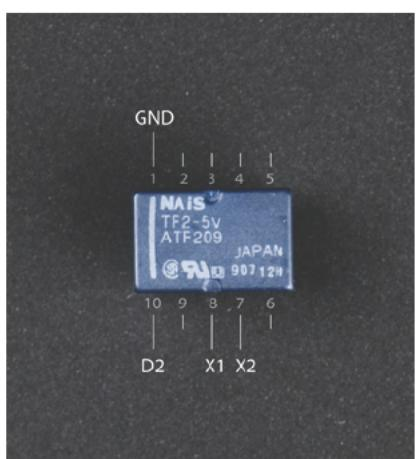

Figure 7-4. Relay circuit connections
The Arduino controls the relay in Figure 7-4. Connect digital pin 2 on the Arduino to the relay pin marked D2, and the Arduino ground to the relay pin marked GND. Connect the external component you wish to control to the X1 and X2 pins. When D2 is switched on (HIGH), the relay will connect pins X1 and X2 to each other.
a. Connect Arduino's +5V pin with a red jumper wire to relay pin 8, the middle one in the bottom row. Pin 8 is marked as X1 in Figure 7-4.
b. Connect the LED's positive (longer) leg to relay pin 7. Pin 7 is in the bottom row, second from the right. It is marked X2 in Figure 7-4.